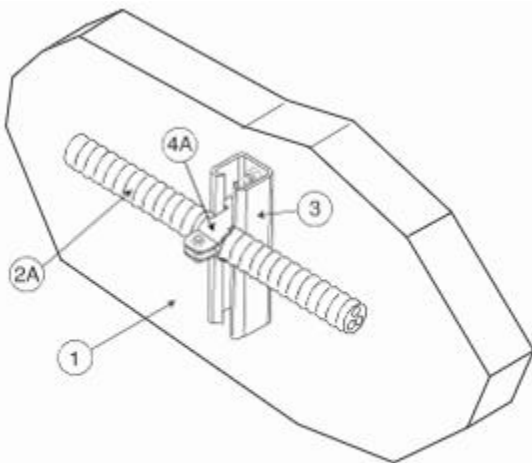

Figure 3
**B2. Clamps** – In lieu of item B only for VITALink® Type Armored cable without an outer jacket, in both vertical and horizontal installations, a two-piece single bolt type pipe clamp, or one piece, saddle type pipe clamps (not shown), sized to correspond with the outside diameter of the cable (Figure 3). The clamp shall provide a secure mount to the strut without deforming the copper armor.